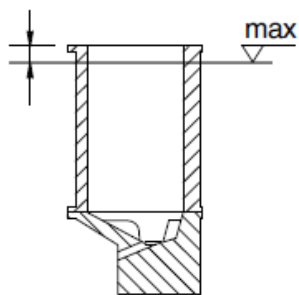

Figure 4-2 Cross-section of tank
2. Fill the tank with hot melt adhesive. Refer to Figure 4-2 to see the maximum level.